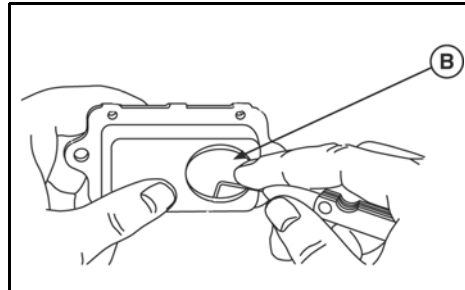

Figure 8
2. Inspect the oil drain-back hole (B, Figure 8). Insert a fine wire to ensure the opening is not plugged.
1. Install reed with the metal tab facing outside of the engine, as shown in Figure 8. Torque screw to values listed in Section 12 - Engine Specifications.